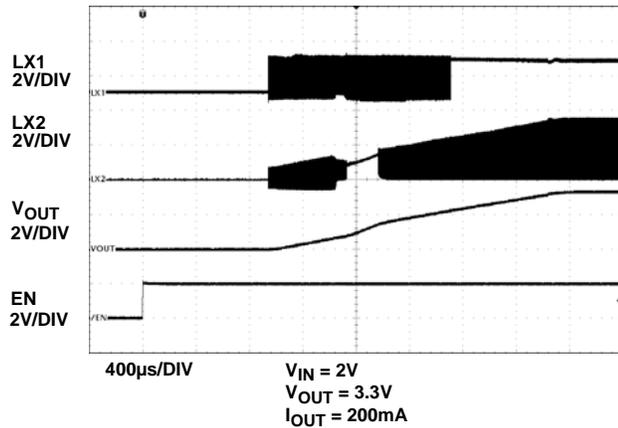
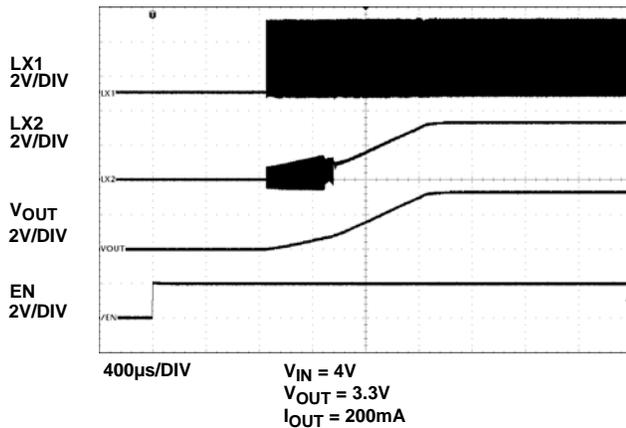

FIGURE 1. ISL9110A START-UP WITH $V_{IN} = 2V$ and $V_{OUT} = 3.3V$
FIGURE 2. ISL9110A START-UP WITH $V_{IN} = 4V$ and $V_{OUT} = 3.3V$
8. Monitor the output voltage startup sequence on the scope. The waveforms will look similar to that shown in Figure 1 and Figure 2.